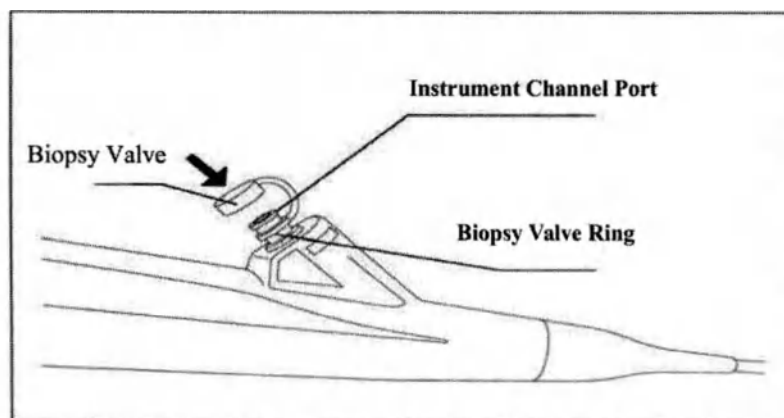

Fig 3.4
1. Install the Biopsy Valve to the instrument channel port, and then push to the end, until it is fixed to the body (Fig 3.4)